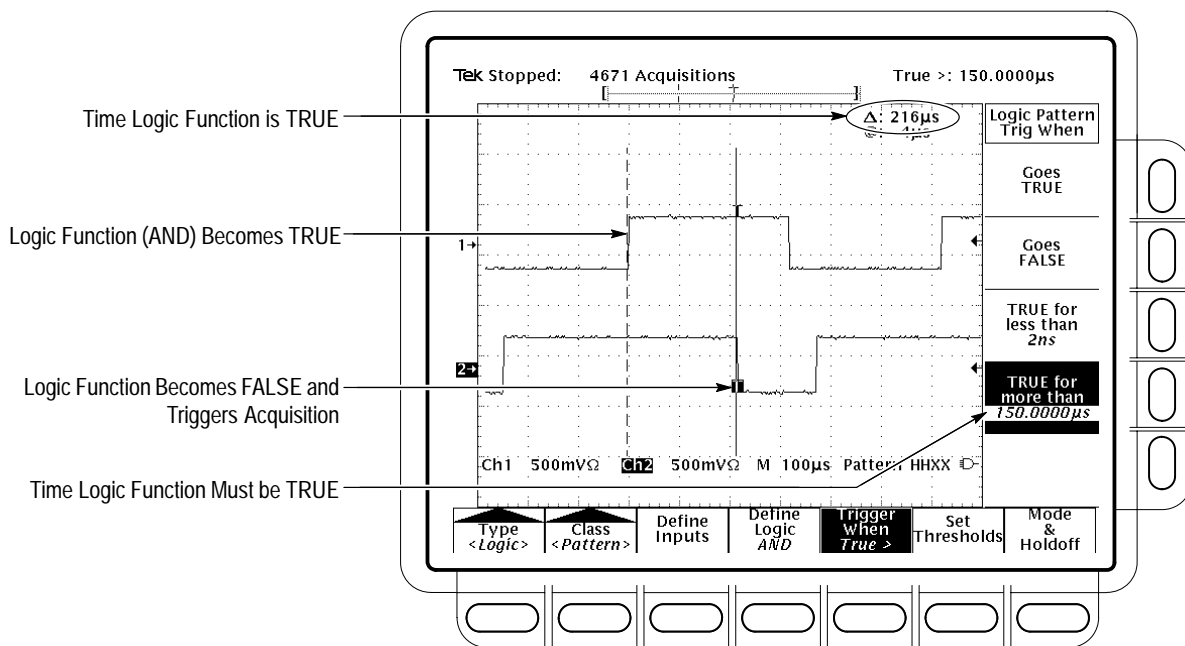

Figure 3–47: Logic Trigger Menu — Time Qualified TRUE
Note the position of the trigger indicator in Figure 3–47. Triggering occurs at the point that the oscilloscope *determines* that the logic function you specify is TRUE within the time you specify. The oscilloscope determines the trigger point in the following manner:
In Figure 3–47, the delay between the vertical bar cursors is the time the logic function is TRUE. Since this time is more (216  $\mu$ s) than that set in the TRUE for more than menu item (150  $\mu$ s), the oscilloscope issues the trigger at that point, not at the point at which it has been TRUE for 150  $\mu$ s.